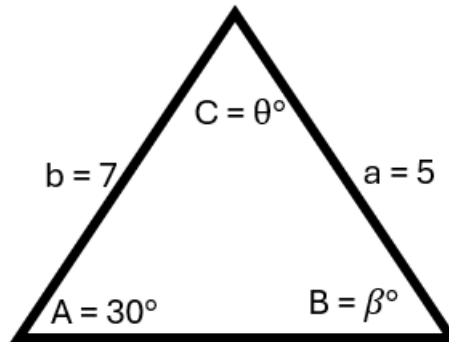

Fig.2
- 11) Consider the triangle in **Fig.2** where $a = 5$ cm, $b = 7$ cm, and angle $A = 30$ degrees. Use the sine rule to determine how many possible triangles exist, and find possible angles B .